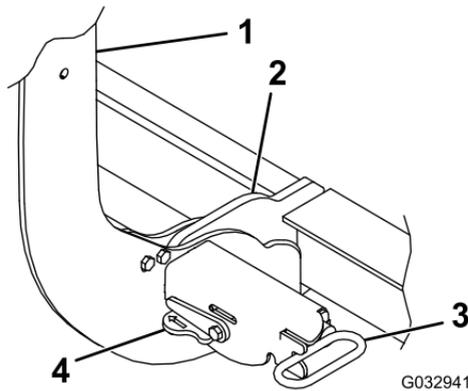

Figure 26
4. Turn the levers on the spring pins to the LOCK position (Figure 26).
- Ensure that both spring pins have fully engaged the coupler (Figure 26).